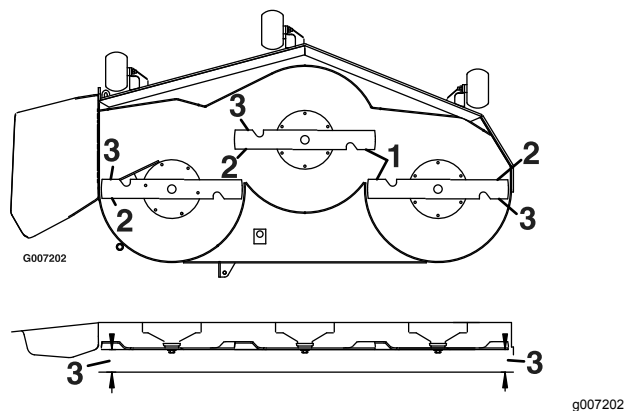

Figure 70
4. Measure between the outside cutting edges and the flat surface (Figure 70). If both measurements are not within 5 mm (3/16 inch), an adjustment is required; continue to the Leveling procedure.